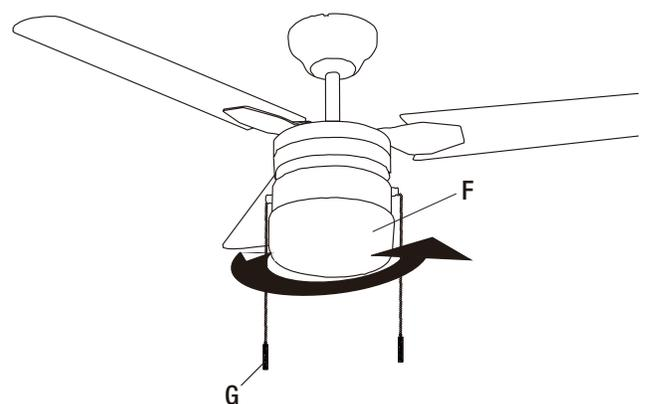

Figure 16
- Install the lamp shade (F) into the lamp-fitter by a gentle clockwise twist-and-lock (Figure 16).
- Attach the fan pull chain pendant (G) to the pull chain on the switch assembly.